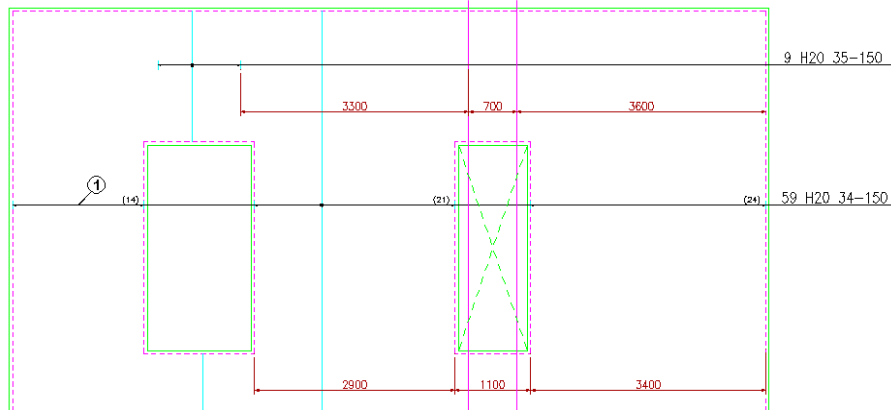

Figure 8.4.11:5 Additional Group added to Single Fixed Pitch Range
- ▶ Select CADS RC → Editing → Edit Range or  or double click on the Range Line as shown by point 2 in figure 8.4.11:6 below;